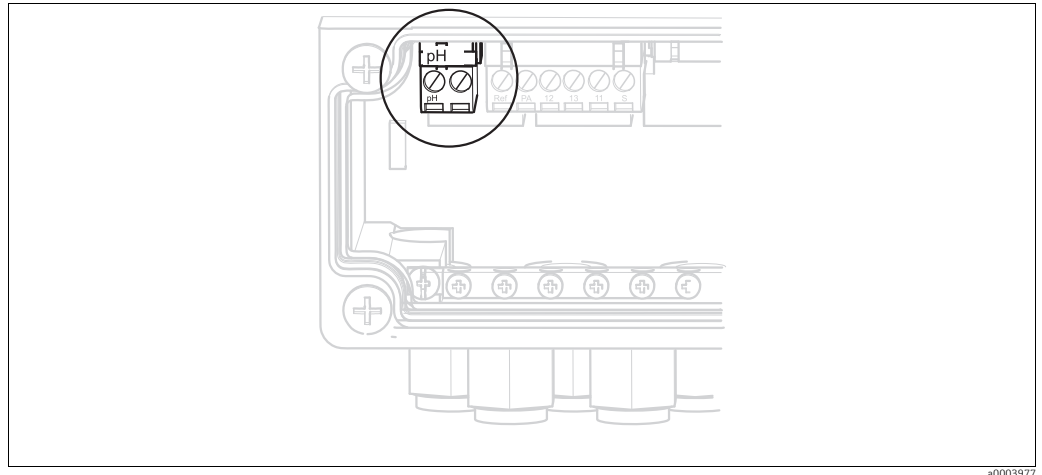

Fig. 25: pH terminal on housing cover
3. Remove the "pH" terminal on the housing cover (see Fig. 25) from the device and replace it with the "DRN/SRC" terminal supplied.